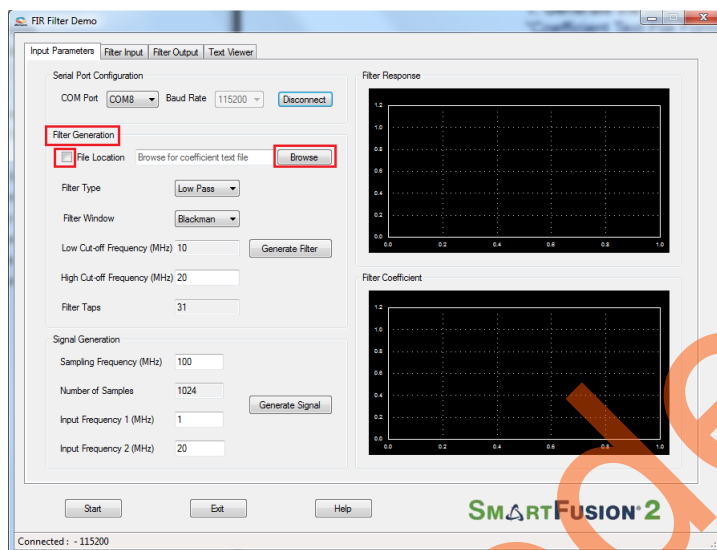

Figure 14 • Filter Generation - 1
- Generate the coefficients using MATLAB or any similar tool and save it as a text file (Refer "Appendix 3: Coefficient Text File Format" for the format of the text file). The GUI can be used to browse and load this file as shown in Figure 14.